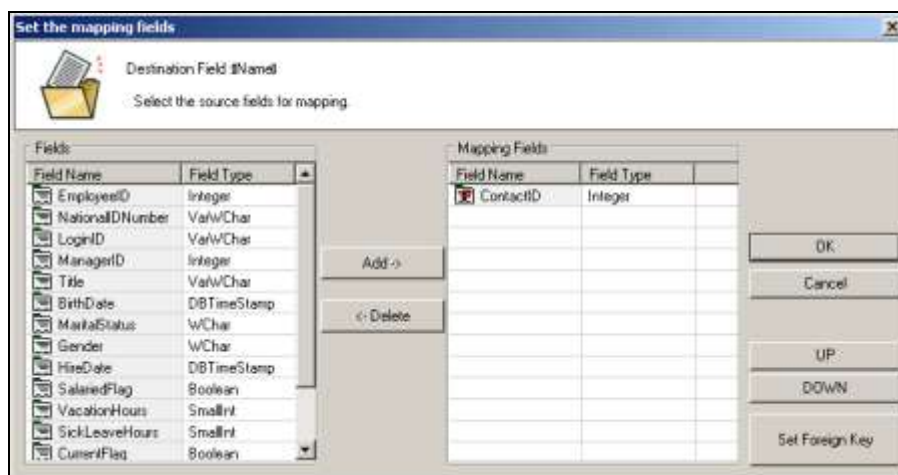

Figure 17-8
- In the left pane of the mapping field dialog box, select the field(s) of the source database corresponding to the Name field of the GV-ASManager database. Then click **Add**. In this example (Figure 17-8), the **Contact ID** field of the source database corresponds to the **Name** field of the GV-ASManager database.